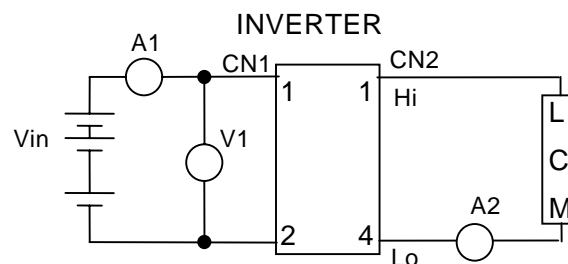

Fig.1 Wiring
- (1) The electrical characteristics are measured as we show on measurement diagram Fig.1. $V_{in}=12.0V$.
- (2) As we show on measurement diagram Fig.1, the test equipment shall be V1:DC Volt meter (Class0.5) A1:DC Current meter(Class0.5) A2:AC Current meter type2016(Y.E.W) or FLUKE45(FLUKE) V_{in} : DMS35-2.3(Metronix).
- (3) The line length of between the lamp and CN2(high voltage)is less than 150mm.